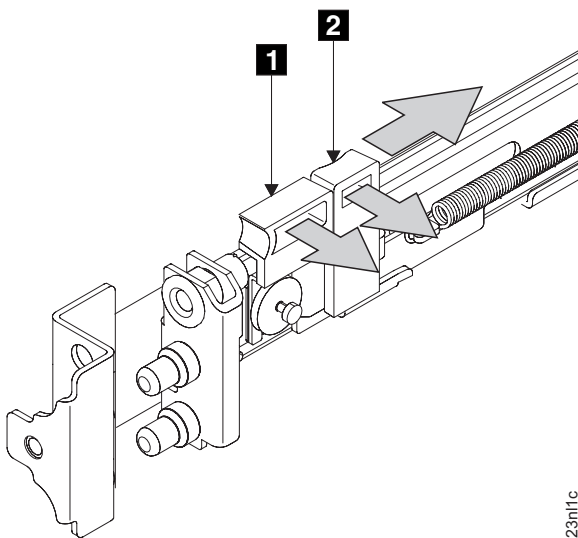

Figure 61. Opening the front latch-lock carrier assembly
3. Gently push the latch lock **2** away from the rail as you move the latch lever **1** toward the far end of the rail (Figure 61). The latch-lock carrier assembly slides against the spring tension.